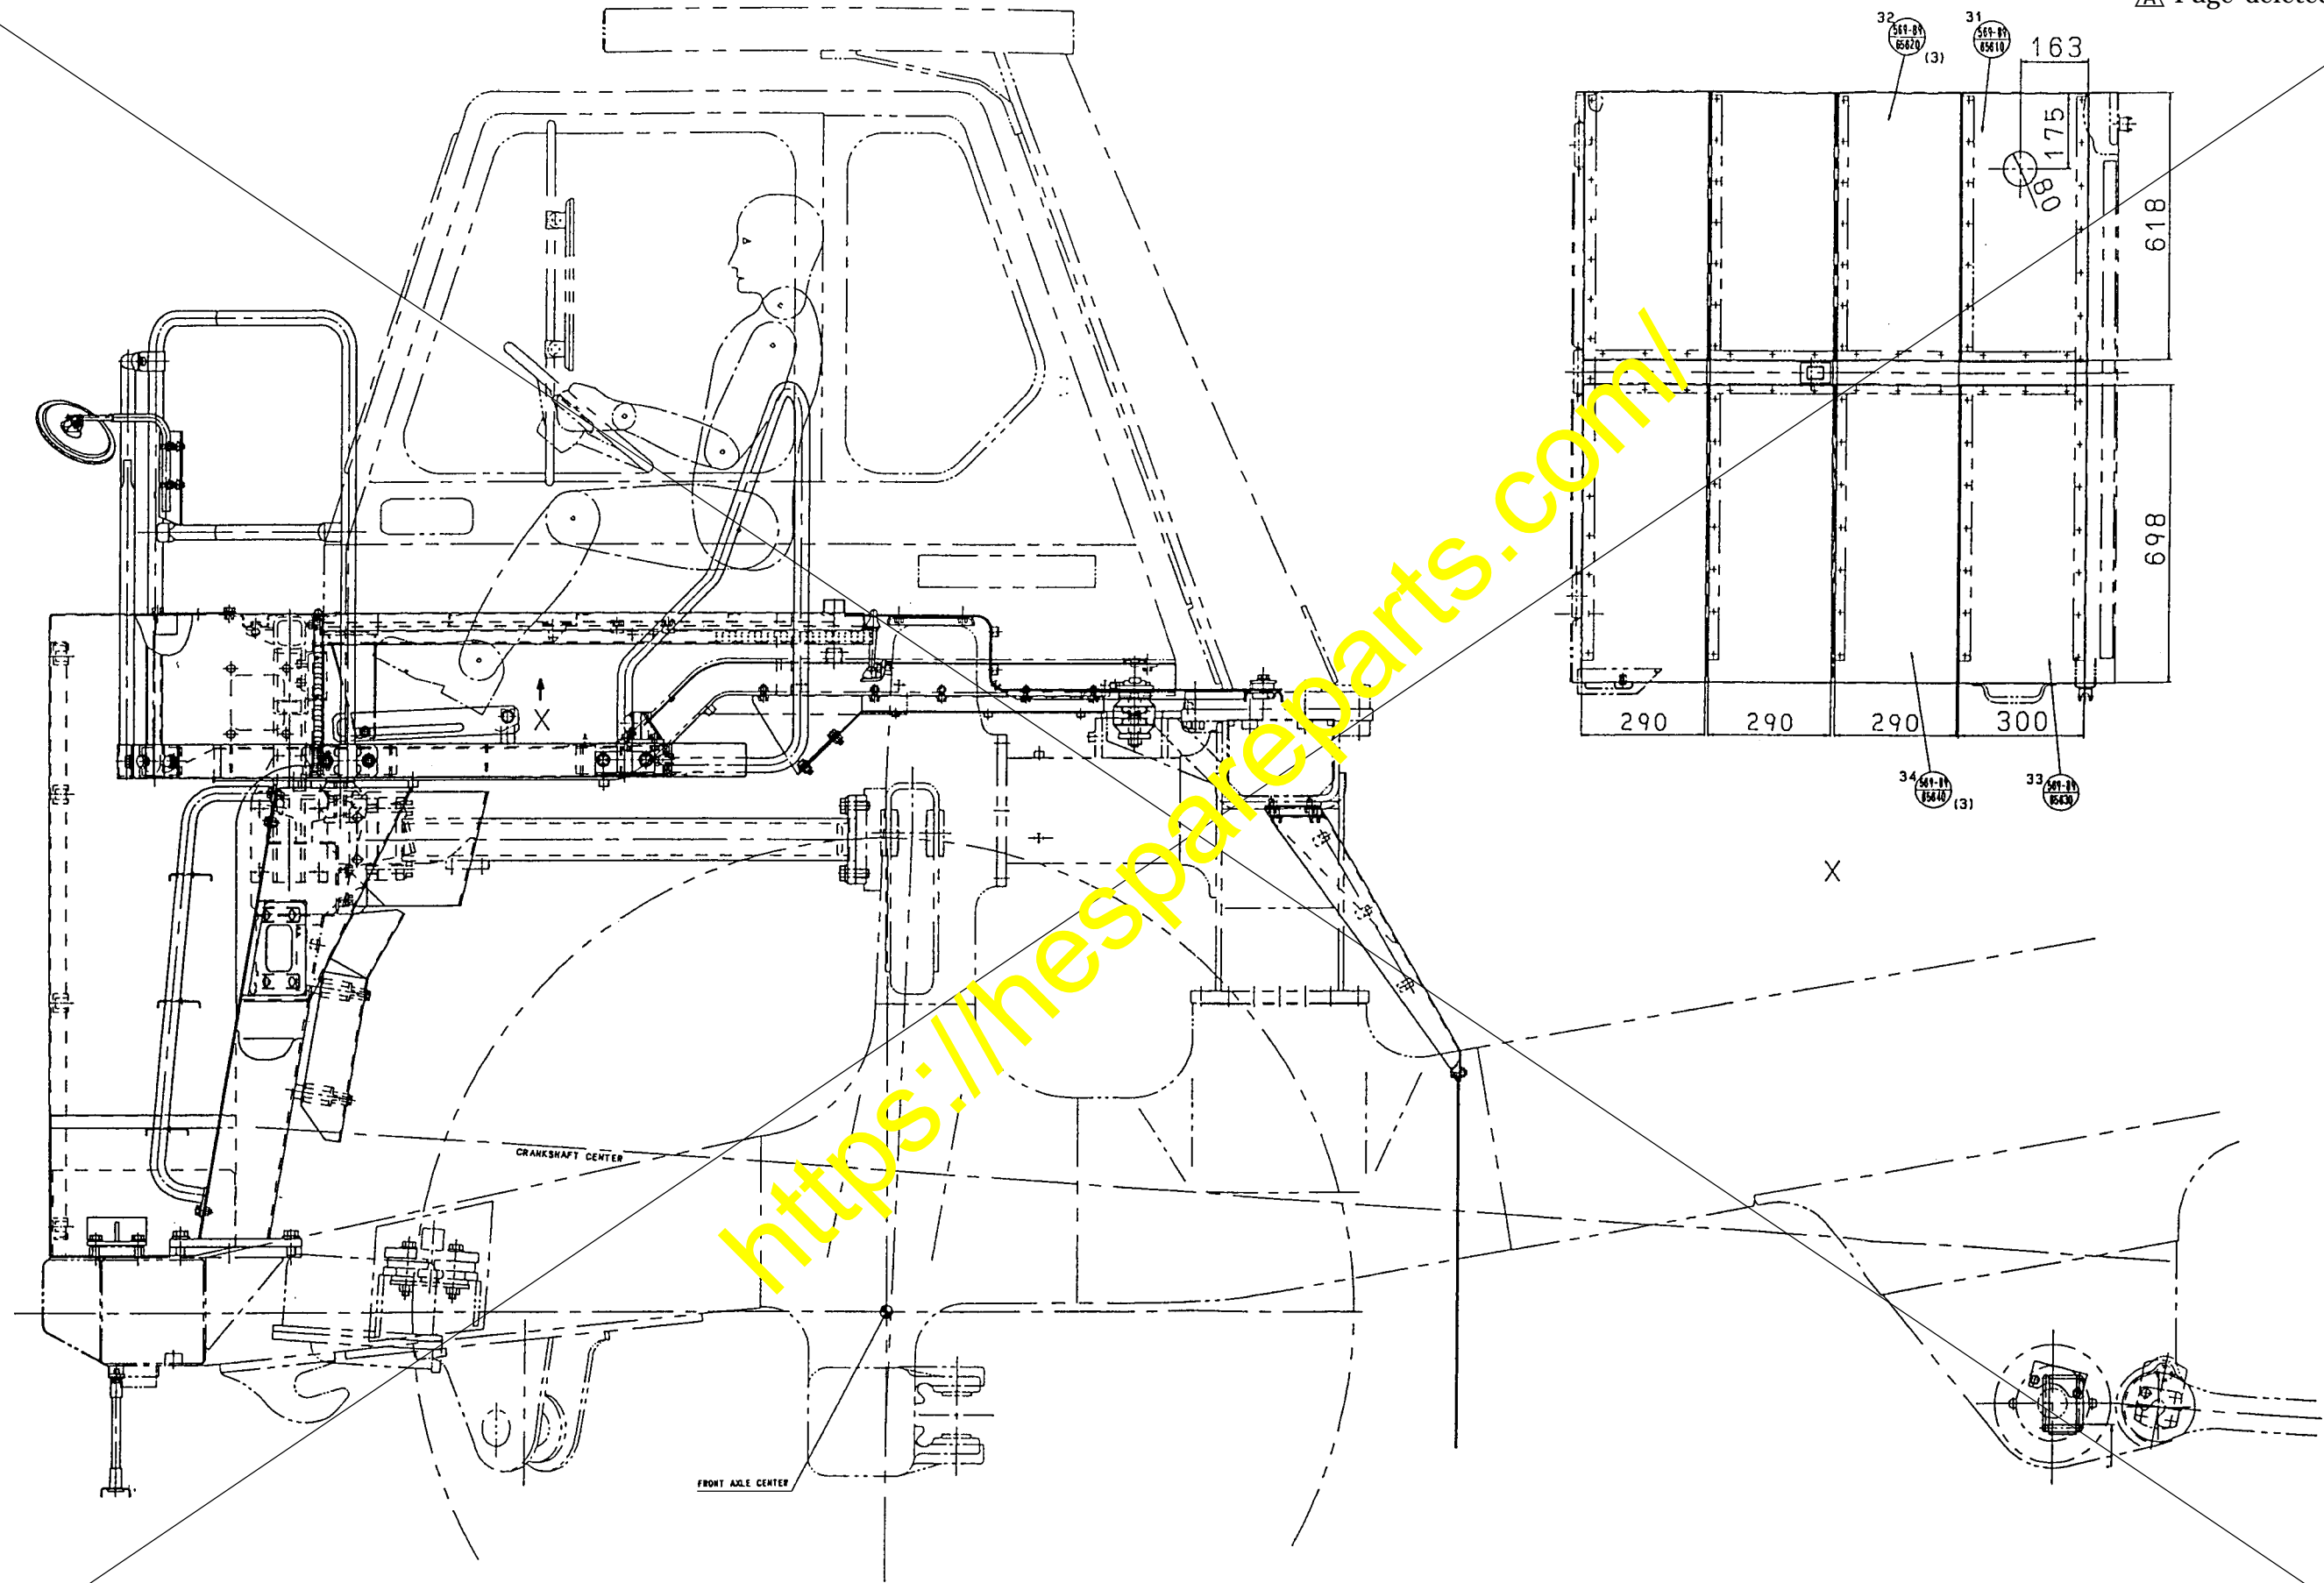

Fig. 9 Drawing for installation of the prepared parts onto the rear surface of the engine hood
~~ (2) Installing the prepared parts onto the rear surface of the engine hood. (Refer to Fig. 9.)~~